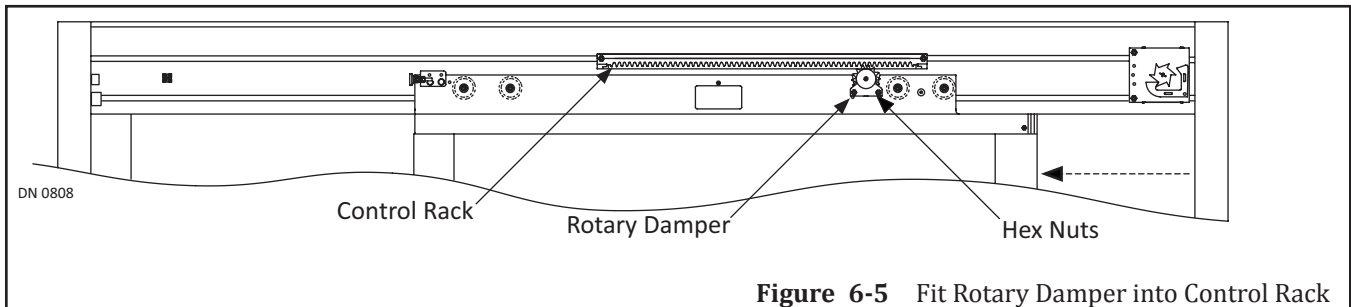

Figure 6-5 Fit Rotary Damper into Control Rack
1. Manually slide open the door until the Rotary Damper is directly underneath the Control Rack. Please see Figure 6-5.
2. Go to the Rotary Damper. Loosen (2) #10 hex nuts with a 3/8 inch wrench.
4. Tighten (2) #10 Hex nuts that were just loosened to secure the Rotary Damper in place. Do not overtighten.